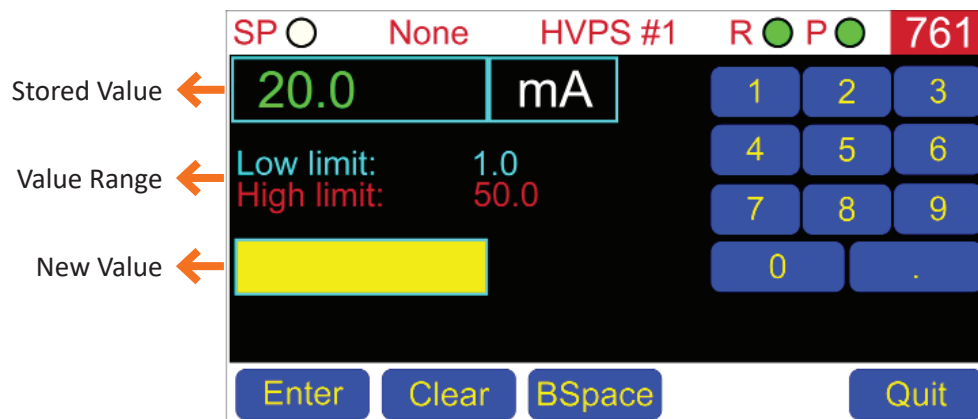

Figure 11. Example of a parameter entry screen
The Channel Configuration display provides access to the channel-specific parameters that affect Terranova® 760 series output and ion pump operation. As shown in Figure 10, all parameters which can be modified are enclosed (for illustrative purposes) in either an orange or red rectangle. Tapping on a numerical value (i.e. orange rectangle) opens a Parameter Entry screen (see Figure 11
Figure 11 illustrates an example of a parameter entry screen — all parameter entry screens will have a similar layout. A number pad with mathematical symbols will become available so the user can input the new parameter value. The currently-stored value is visible in the top, left corner of the screen. The Low and High Limit values define the range of the parameter. The new value will appear on the yellow rectangle and may be input in a number of formats so long as it possesses the correct syntax and is within the parameter range. An incorrect format or out-of-range value will output the error code "Value out of bounds" below the yellow rectangle (see "Parameter Entry Screen Example").
4. To change a parameter value enclosed by an orange rectangle, tap a numerical value to open the respective Parameter Entry screen (see Figure 11 for a screen description).